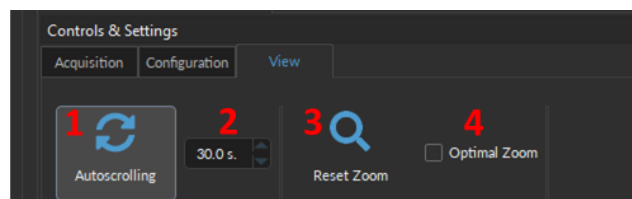

Figure 9.10: View Tab
The **View Tab** (Fig. 9.10) is used to modify the presentation of graphs in the **Acquisition view**.
1. The **Autoscrolling** button (Fig. 9.10, 1), when selected, automatically set the graphs to scroll as new data appears.
2. the **Zoom range** (Fig. 9.10, 2) sets the graph zoom to the value of choice, specified in the text-box.
3. The **Reset Zoom** button (Fig. 9.10, 3) readjusts the graph zoom to the value specified in the zoom range text-box.
4. The **Optimal Zoom** check-box (Fig. 9.10, 4) automatically adjusts the graph range based on the values of the data collected. Smaller values will lead to greater zoom, and vice versa.